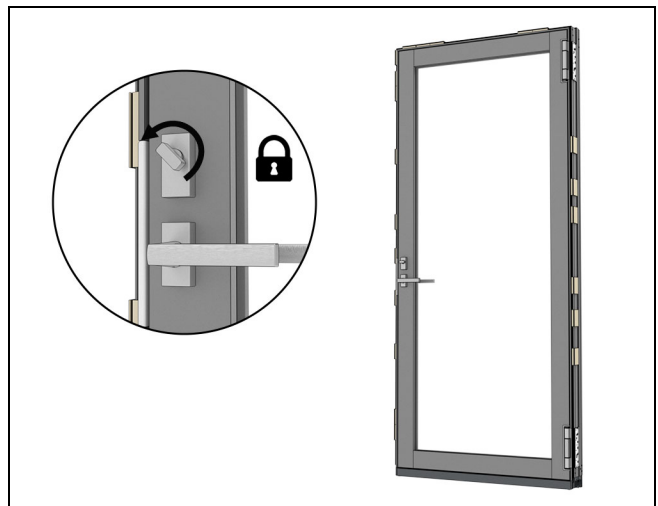

Figure 45
1. On Swinging Doors: close the door completely until the latch engages the strike. Turn the thumb turn to lock. Once locked, the locking sensor will activate and signal a closed and locked status. See Figure 45.